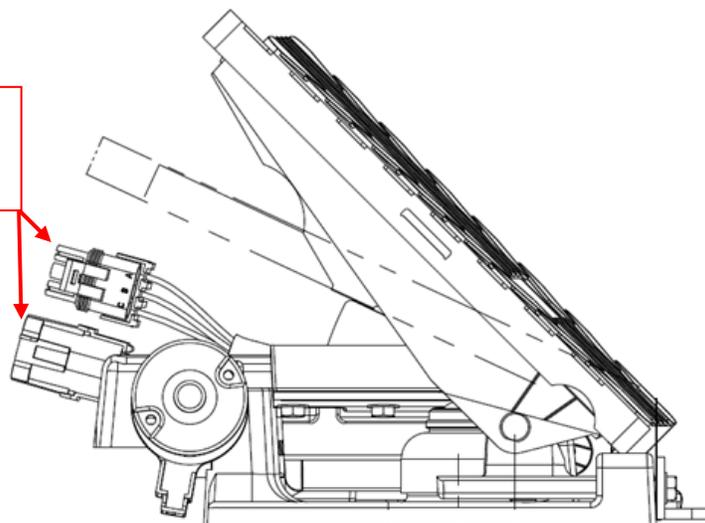

Figure 3: Disconnect Electrical Connectors
13. Disconnect the harness from the pedal assembly, see Figure 3.